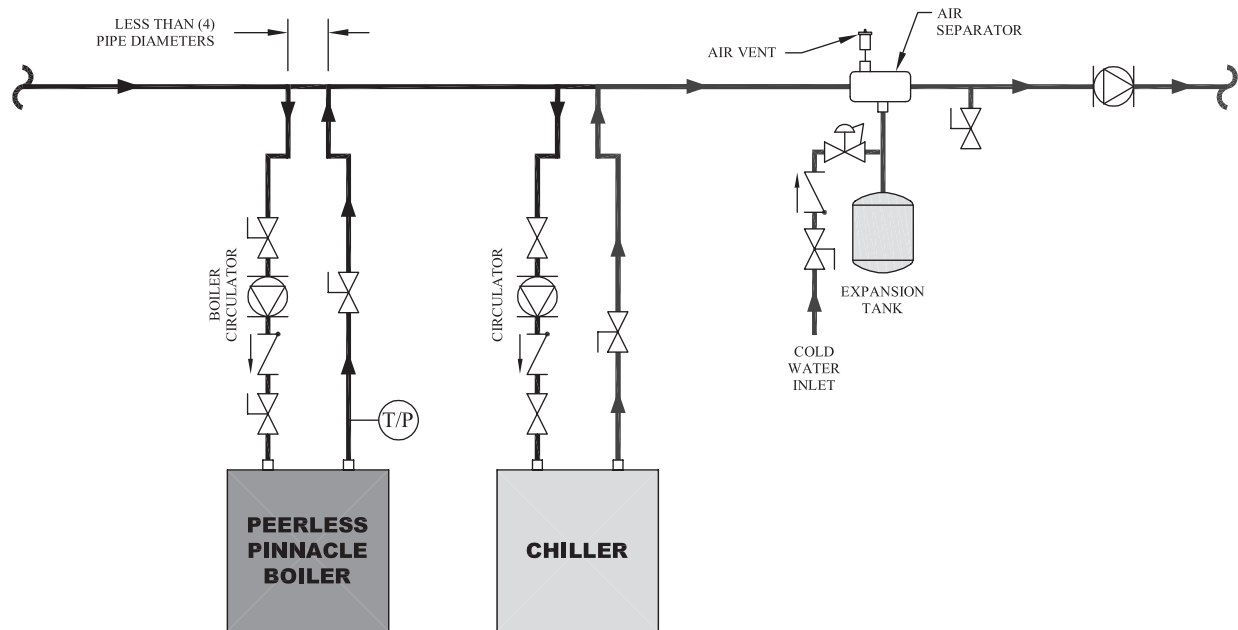

Figure 3.8: Boiler in conjunction with a Chilled Water System
- c. See figure 3.8 for recommended system piping.